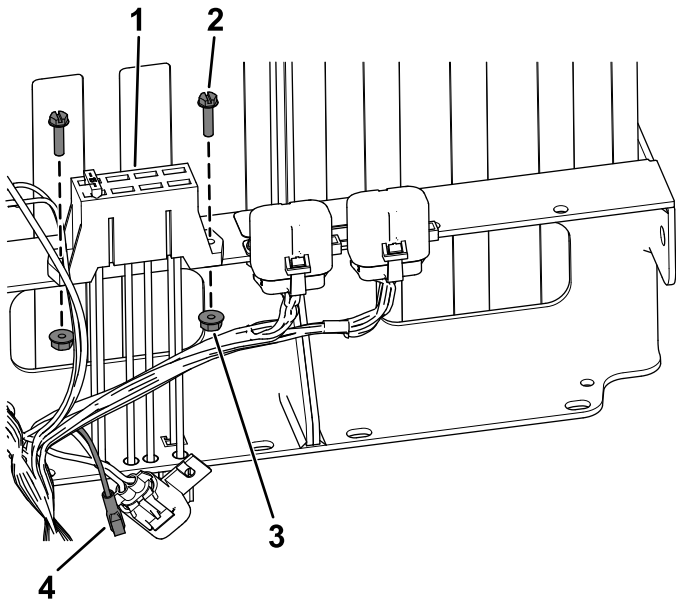

Figure 1
1. For machines with Serial No. 403448001 and above, secure the new fuse block using the 2 hex-washer head screws (#10 x 3/4 inch) and 2 serrated nuts (#10) as shown in Figure 1.
2. **For machines with Serial No. 403448001 and above**, connect the female connector on the harness to the new fuse block (Figure 1).